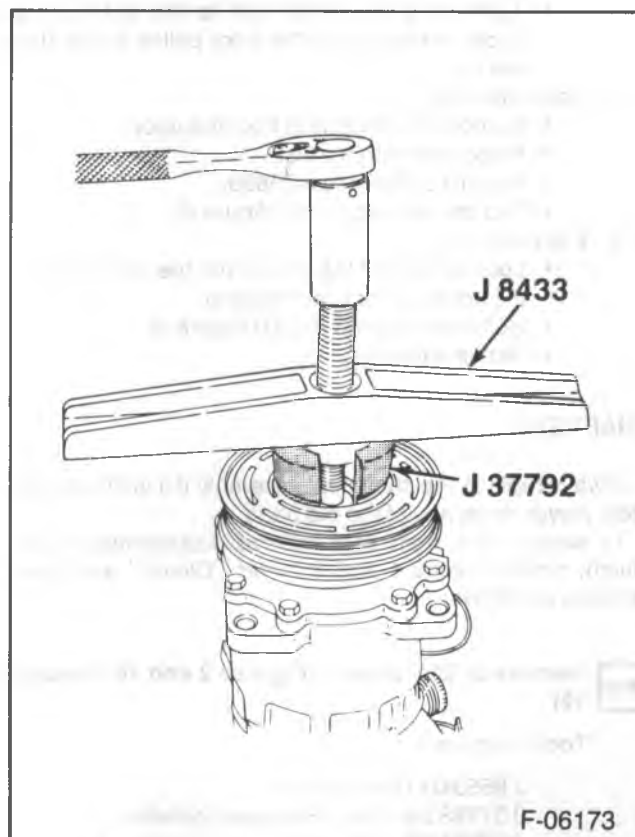

Figure 7—Removing the Rotor Pulley
- Turn the puller center bolt to the right with a socket wrench until the rotor pulley is free (figure 7).